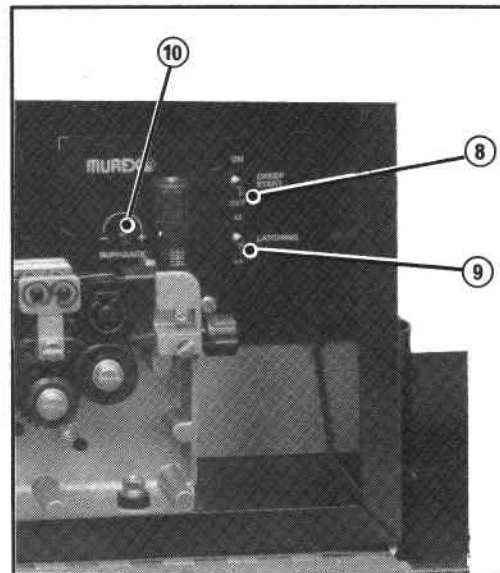

Fig 2 - Controls
8. Push the check button - See Fig. 2. and check that the wire is driven smoothly through the outlet guide.